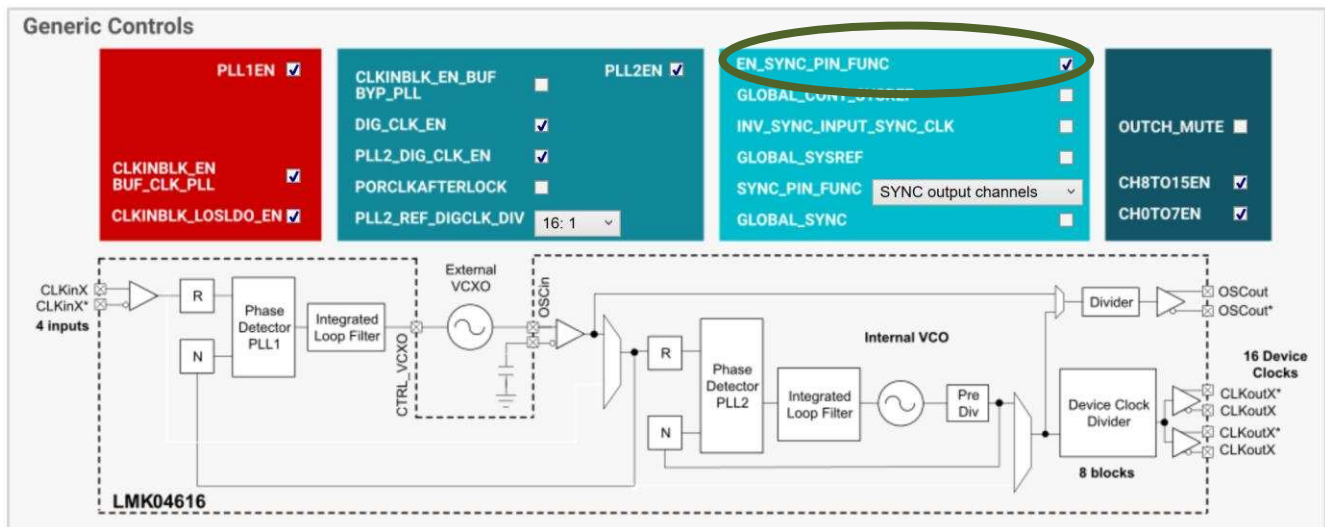

Figure 13. TICSPRO Enabling SYNC Pin Function
2. Go to Generic Tab and set the EN_SYNC_PIN_FUNC lie shown in Figure 13.